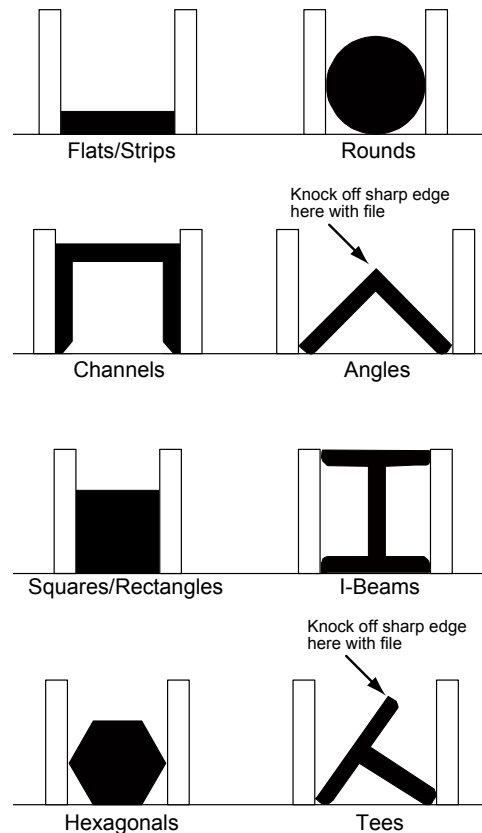

Figure 11
1. Clamp the workpiece in the vise. Refer to Figure 11 for examples of workpieces in the vise.